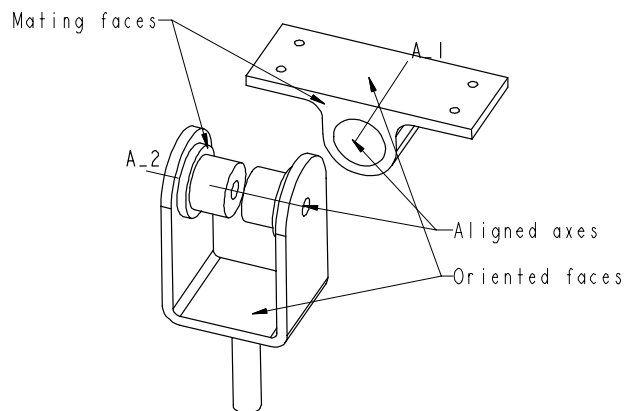

Figure 9-46 Constraints and the location to apply them
4. Select the face of the Bushing shown in Figure 9-46 to add the mate constraint.
5. Select the front face of the Pivot shown in Figure 9-46 to add the mate constraint.
7. Select the axis of the Bushing shown in Figure 9-46.
8. Select the central axis of the Pivot shown in Figure 9-46. The **Fully Constrained** message is displayed in the **Placement Status** area of the **Component Placement** dialog box. But note that the **Allow Assumptions** check box is selected. This suggests that Pro/ENGINEER has assumed some constraints to constrain the Pivot with the Bushing.
12. Select the field in the **Offset** column. The field will be changed into a drop-down list. Select the **Oriented** option from the drop-down list and select the top face of the Pivot shown in Figure 9-46.
13. Now, select the upper horizontal face of the U-Support shown in Figure 9-46. The message displayed in the **Placement Status** area is **Fully Constrained**. Choose the **Preview** button from the **Component Placement** dialog box. Choose **OK**.